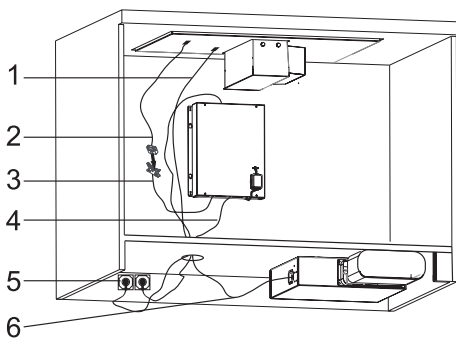

Fig. 44: POWER SUPPLY CONNECTION
- 9. Connect the cooking field power cable with a junction box designated for cooking ranges (Fig. 44/2) with the data cable from the switch box (Fig. 44/3).
- 10. Connect the cooking field suction device plug (Fig. 44/1) with the power outlet (Fig. 44/5) (Fig. 44).
- 11. Connect the control box power cable (fig. 44/4) with the power outlet (Fig. 44/5).
- 12. Connect the engine connection cable from the control box (fig. 44/6) with the connector pin on the engine (Fig. 44).